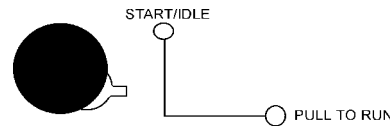

Figure 48. Engine Throttle Lever (high)
11. Let the engine warm up for a few minutes. Then pull and turn the throttle lever to the right to set the engine speed to 'high' (Figure 48).